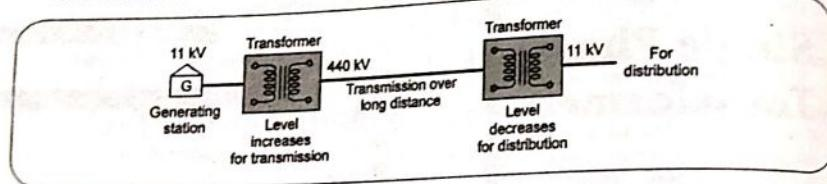

Fig. 5.1.1 Use of transformers in transmission system
- The use of transformers in a.c. transmission system is shown in the Fig. 5.1.1.